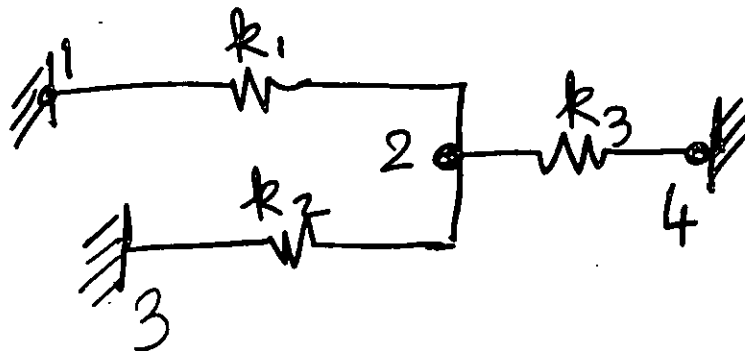

Figure 2
- b. For the spring system with arbitrarily defined nodes and elements as shown in Figure 2, find the global stiffness matrix.
Figure 2 for question 4(a)